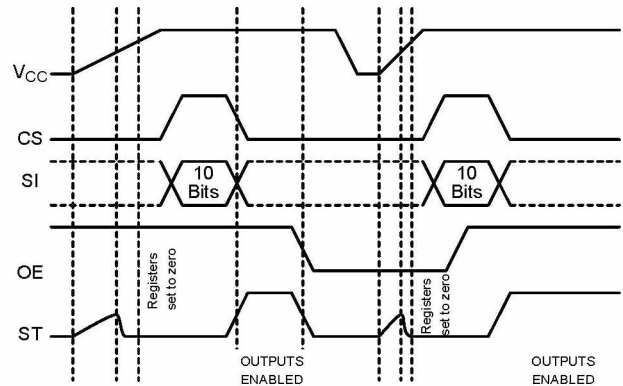

Figure 6. Power Up Sequence
Figure 6 shows the power-up sequence for the CS4192. Note the IC requires a pulse on the Chip Select (CS) pin to clear the Status Fault (ST) after power up. OE must be high before the falling edge of CS to enable the output buffers.